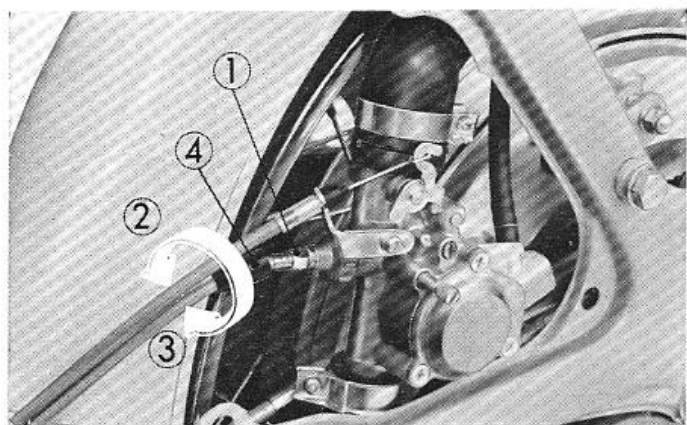

Fig. 1-31 ① Adjusting bolt ② To decrease
- ② When excessive play exists in the rotating direction, adjust the throttle cable. Make the adjustment with the adjusting bolt. After the adjustment, reinstall the cap securely. (Fig. 1-31)